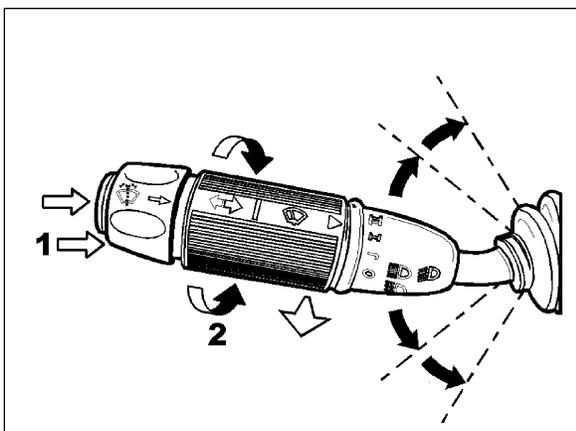

FIGURE 65: MULTIFUNCTION LEVER
Turn the multifunction lever forward to activate windshield wipers (item 2, Figure 65). The first position operates the wipers at low speed and the second position operates the wipers at high speed. Turning the lever backwards will operate the wipers in the intermittent mode.
The windshield washer pumps are electrically operated and are controlled by a washer control ring on the multifunction lever (item 1, Figure 65).